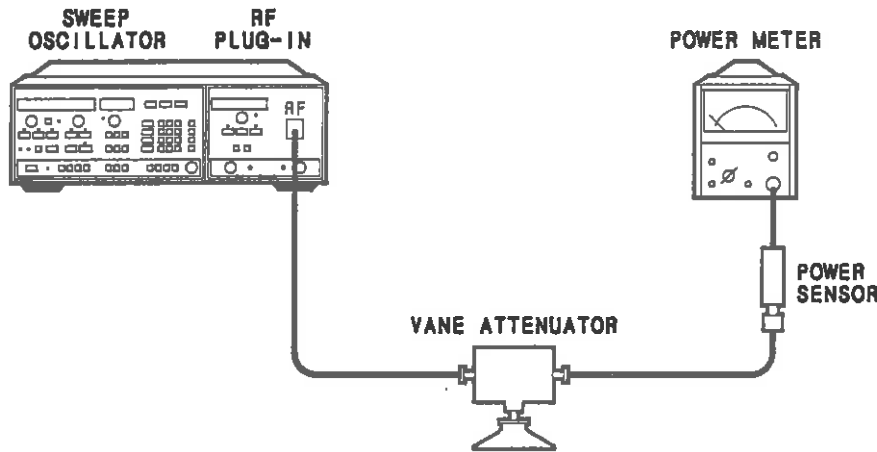

Figure 4-3. Output Amplitude Test Setup
1. Connect the equipment as shown in figure 4-3. Set the vane attenuator to 10 dB. Calibrate the power meter/sensor.